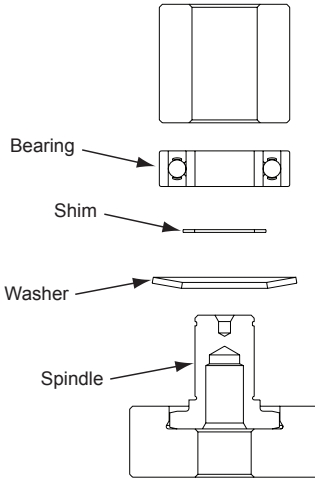

Figure 2
2. Place the Washer on the Spindle shaft with the curve of the Washer facing out so that the outside diameter of the Washer will contact the outer diameter of the Bearing (one seal). Lay the Shim on the shoulder of the Spindle. Place the Bearing (one seal) on the Spindle with the seal side toward the Washer. NOTE: Make sure that both the inner and outer races of the Bearings are supported by the Bearing Press Tool when pressing them into place. Press the Bearing onto the shoulder of Spindle using the T-5B Spindle Bearing Pressing Tool Top as shown in Figure 2.